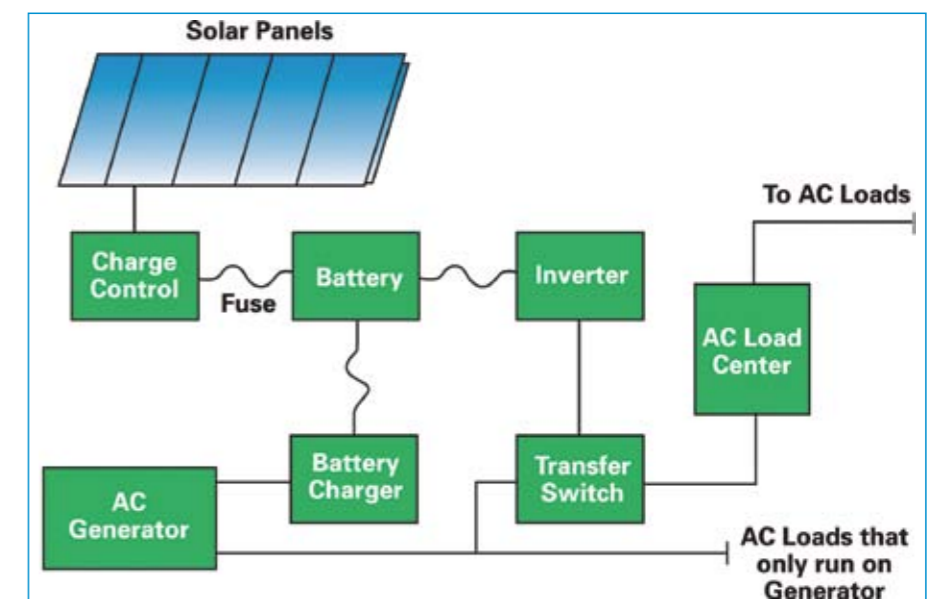

Figure1: PV and generator hybrid system.
and several hundred kilowatts peak (KWp), allowing inverters to be designed around sophisticated source topologies, either with or without transformers, and with the integration of multiple control processors. Figure 1 shows where the inverter fits into an all-inclusive photovoltaic (PV) system that not only charges a battery and drives local AC loads, but also ties to the grid and has an alternate power source in the form of an AC generator. Similar configurations apply to wind turbines and other sources.